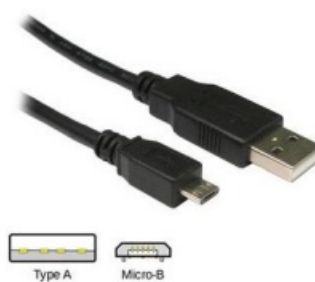

Figure 4-1 USB A to Micro-B Cable
- Micro USB Cable (see Figure 4-1)